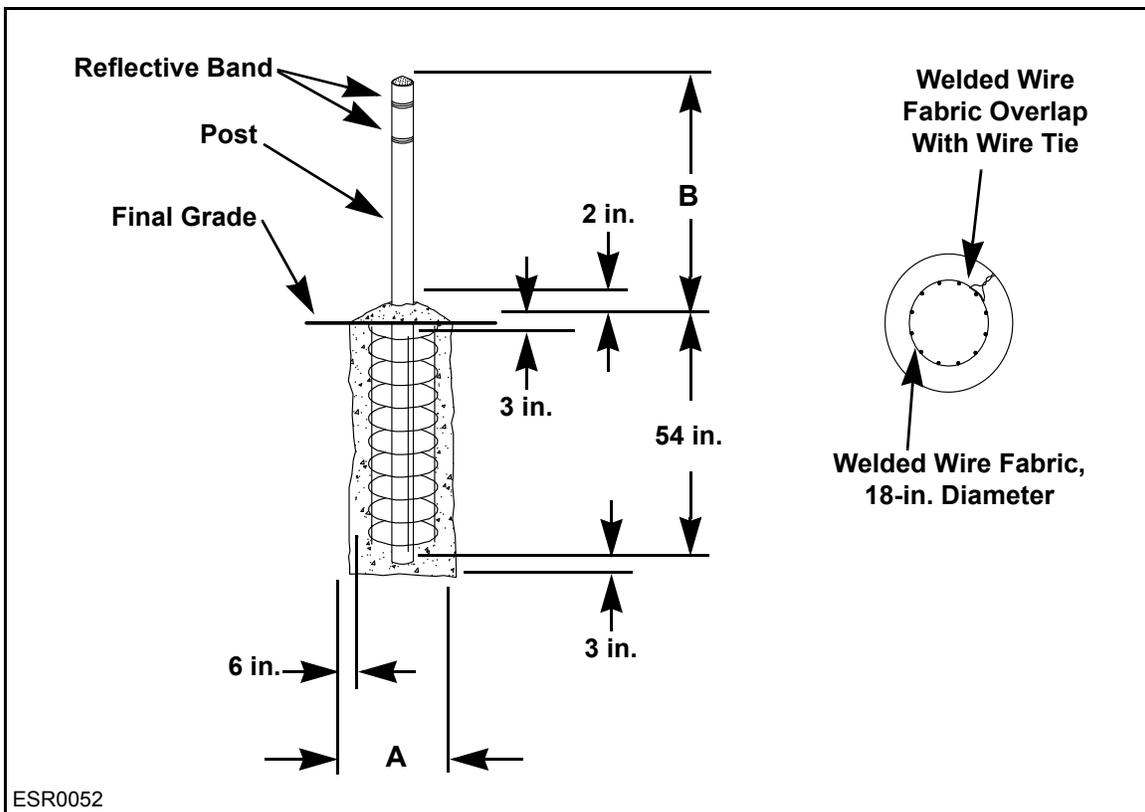

Figure 6-4: Barrier Post Dimensions
- Use steel reinforcement when the barrier post is at a loading dock. Steel reinforcement must be 6 x 6 W2.9/2.9 welded wire fabric (WWF) placed around the outside of the galvanized steel post. Steel reinforcement is not required in an area that has only car traffic. See **Figure 6-4**.
- Paint all barrier posts safety yellow and apply two 3-inch-wide reflective bands near the top of all barrier posts. See **Figure 6-4**.
The dimensions shown for A and B in the table below refer to the drawing in **Figure 6-4**.